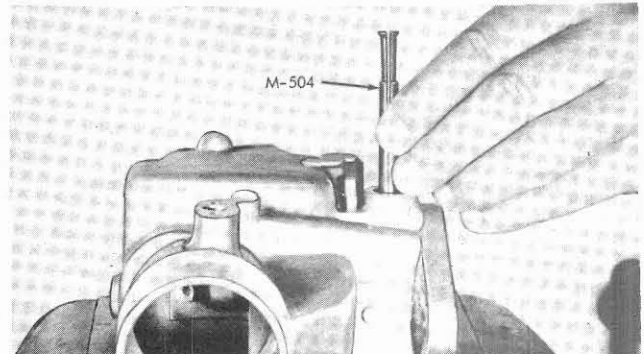

Figure 2-4. Inserting Needle-Bearing Removing Tool
(1) Remove throttle shaft, packings and retainer; insert bearing removing tool, Part No. M-504 (see figures 2-4, 2-5 and 2-6.)